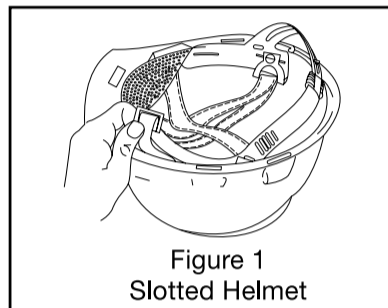
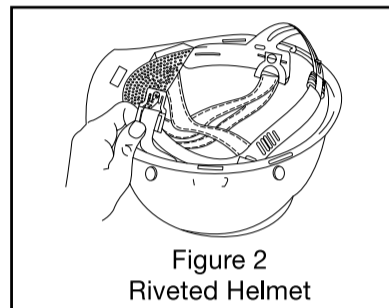

Figure 1
Figure 2
3. Fold the clips up and out (Fig. 1) slotted; (Fig. 2) riveted.